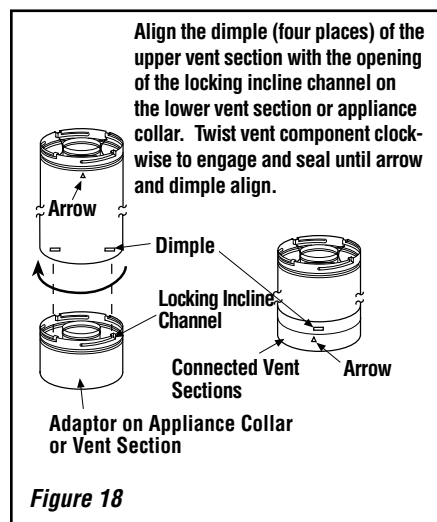

Figure 18
B. Attach adaptor (with probe) to appliance collar. Secure Vent® SV4.5 direct-vent system components are unitized concentric pipe components featuring positive twist lock connections (see **Figure 18**).
To attach a vent component to the adaptor on appliance collar, align the dimpled end over the adaptor collar, adjusting the radial alignment until the four locking dimples are aligned with the inlet of the four inclined channels on the collar (refer to **Figure 18**). Push the vent component against the collar until it fully engages, then twist the component clockwise, running the dimples down and along the incline channels until they seat at the end of the channels.
Push the vent component against the previous section until it fully engages, then twist the component clockwise running the dimples down and along the incline channels until they seat at the end of the channels. **This seating position is indicated by the alignment of the arrow and dimple as shown in Figure 18.**
F. Change vent direction to horizontal/inclined run. At transition from or to a horizontal/inclined run, install the SV4.5 E45 and SV4.5 E90 elbows in the same manner as the straight vent sections. The elbows feature a twist section to allow them to be routed about the center axis of their initial collar section to align with the required direction of the next vent run element. **Twist elbow sections in a clockwise direction only so as to avoid the possibility of unlocking any of the previously connected vent sections (see Figures 18 and 20).**
Secure Vent® SV4.5 direct-vent system components are unitized concentric pipe components featuring positive twist lock connection, (refer to **Figure 18 on Page 18**). All of the appliances covered in this document are fitted with collars having locking inclined channels. The dimpled end of the vent components fit over the appliance collar to create the positive twist lock connection.
To attach a vent component to the appliance collar, align the dimpled end over the collar, adjusting the radial alignment until the four locking dimples are aligned with the inlets of the four incline channels on the collar (refer to **Figure 18 on Page 18**).
Other vent sections may be added to the previously installed section in accordance with the requirements of the vent tables. To add another vent component to a length of vent run, align the dimpled end of the component over the inclined channel end of the previously installed section, adjusting the radial alignment until the four locking dimples are aligned with the inlets of the four incline channels of the previous section. Push the vent component against the previous section until it fully engages, then twist the component clockwise running the dimples down and along the incline channels until they seat at the end of the channels. **This seating position is indicated by the alignment of the arrow and dimple as shown in Figure 18 on Page 18.**
At transition from or to a horizontal/inclined run, install the SV4.5E45 and SV4.5E90 elbows in the same manner as the straight vent sections. The elbows feature a twist section to allow them to be routed about the center axis of their initial collar section to align with the required direction of the next vent run element. **Twist elbow sections in a clockwise direction only so as to avoid the possibility of unlocking any of the previously connected vent sections (see Figures 18 and 20 on Page 18).**